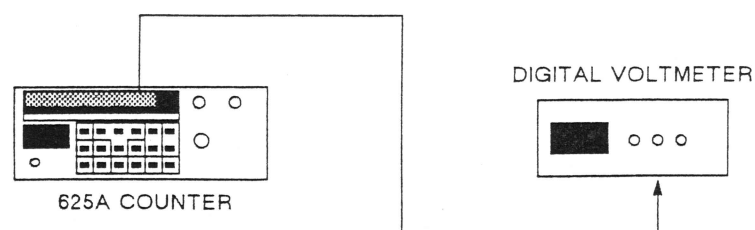

Figure 7-2. Power Supply Adjustment Setup.
1. Set up equipment as shown in Figure 7-2 and as described below.